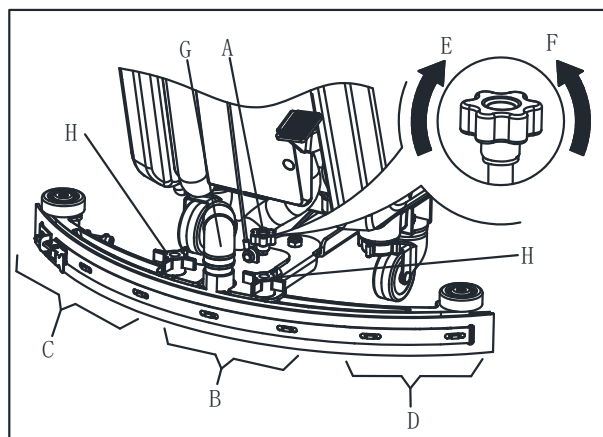

Figure 6
1. Install the squeegee and screw up the nut (H), then connect the vacuum hose (G) to the squeegee.
2. Adjust the squeegee by squeegee adjusting handle (A, Figure 6).
- a) If there is gap between the ground and middle section of rear squeegee blade (B), adjust the knob (A) in counterclockwise direction (F) until all section of rear squeegee blade good contact with ground, the front blade touch the ground slightly.
- b) If there is gap between the ground and both end section of rear blade (C and D), adjust the knob (A) in clockwise direction (E) until all section of rear blade good contact with the ground, the front blade touch the ground slightly.